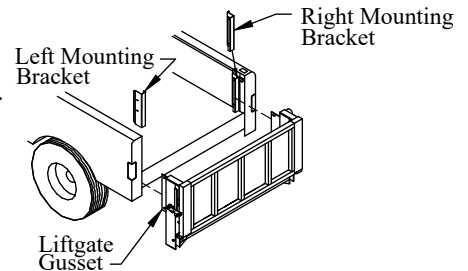

Figure 6: Mounting bracket and liftgate.
- (2) 3/8"x1" hex head bolts on the bracket-side (Figure 6).
- (2) 3/8" lock washers, and (2) 3/8" nuts on the gusset-side (Figure 6).
8. **Drill** two (2) 1/2" holes into each corner post using the two holes in the bracket as a guide.